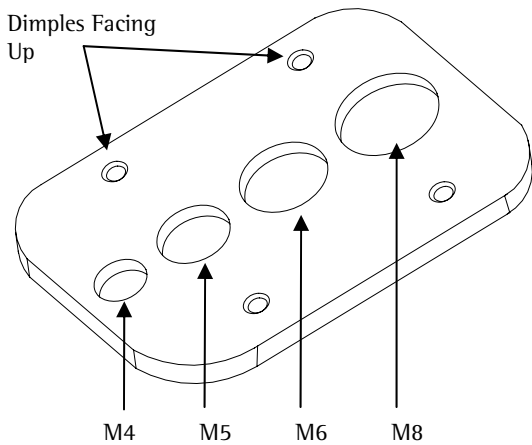

Figure 7
7. The Griplates™ have M4, M5, M6 and M8 hole patterns to fit the hardware that your flat panel requires. **EXAMPLE:** If your flat panel uses M8 x 20 Phillip screws, use the M8 mounting points (Figure 7).